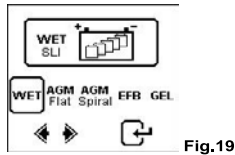

Fig.19
7. Next it will prompt the user to select the types of batteries (Fig.19).